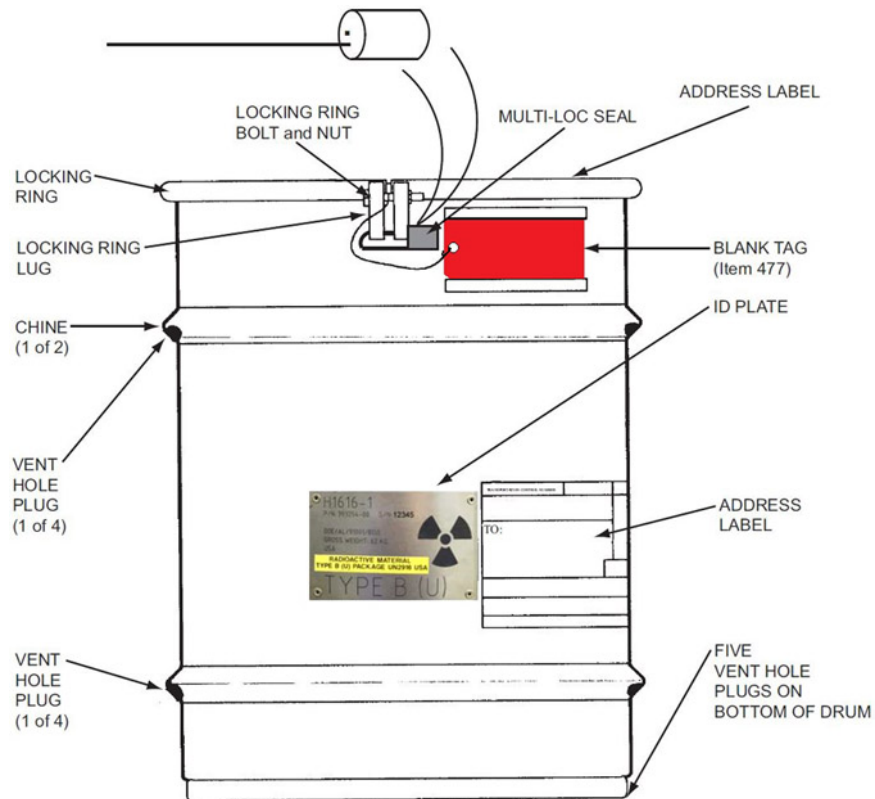

Figure 2-4. External view of the H1616.
- Place the appropriate labels and tags on the outside of the drum overpack and install the Multi-Lok security seal. Figure 2-4 shows the placement of the security seal and red tag.